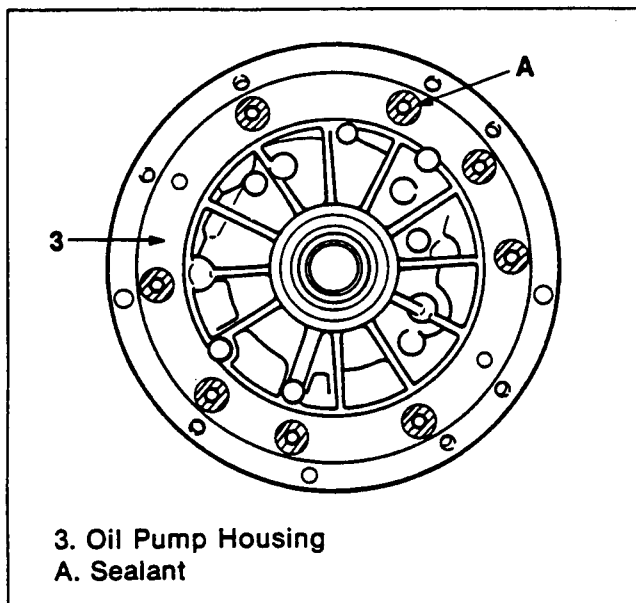

Figure 77. Oil Pump Cover Installation (4)
6. Tighten bolts evenly in a cross pattern sequence (figures 77 and 78).